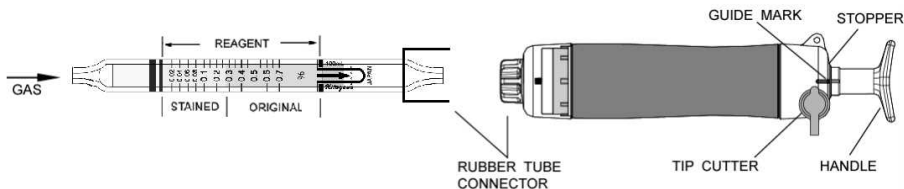

Fig.1
- ② Insert the detector tube into the aspirating pump securely as shown in Fig.1. (Arrow mark shall point to the pump.)
- ③ Align the guide marks on the shaft and stopper of the aspirating pump.
- ④ Pull the pump handle at a full stroke until it locks and wait for 1.5 minutes or until the completion of sampling is confirmed with the flow indicator of the pump. (See descriptions about the flow indicator in the instruction manual of the pump.)
- ⑤ On completion of sampling, read the scale at the maximum point of the stained layer.
- ⑥ When the concentration is over the scale range, a 1/2 pump stroke can be used to determine concentrations of 0.04 to 1.4 %.